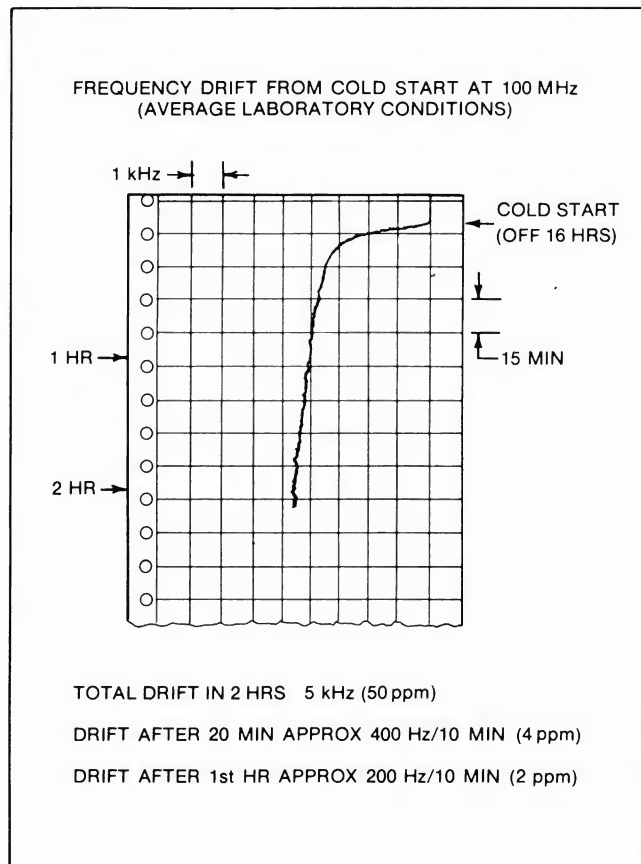

Figure 1-3 Stability Characteristics of Production Model
b. **Stability.** The Model 102D exhibits outstanding stability characteristics, both short-term and long-term. Electronic band-switching by means of PIN diodes eliminates a major source of instability and allows immediate use of each band without further stabilization. Design specifications limit drift (without phase locking) to a maximum of 20 ppm/10 min after 1 hour warm-up on bands 2 through 5, and 1.5 kHz/10 min after 1 hour warm-up on band 1. Actual drift of a production model is shown in Figure 1-3. Stability can be further improved through use of a built-in phase locking feature. Any frequency within the tuning